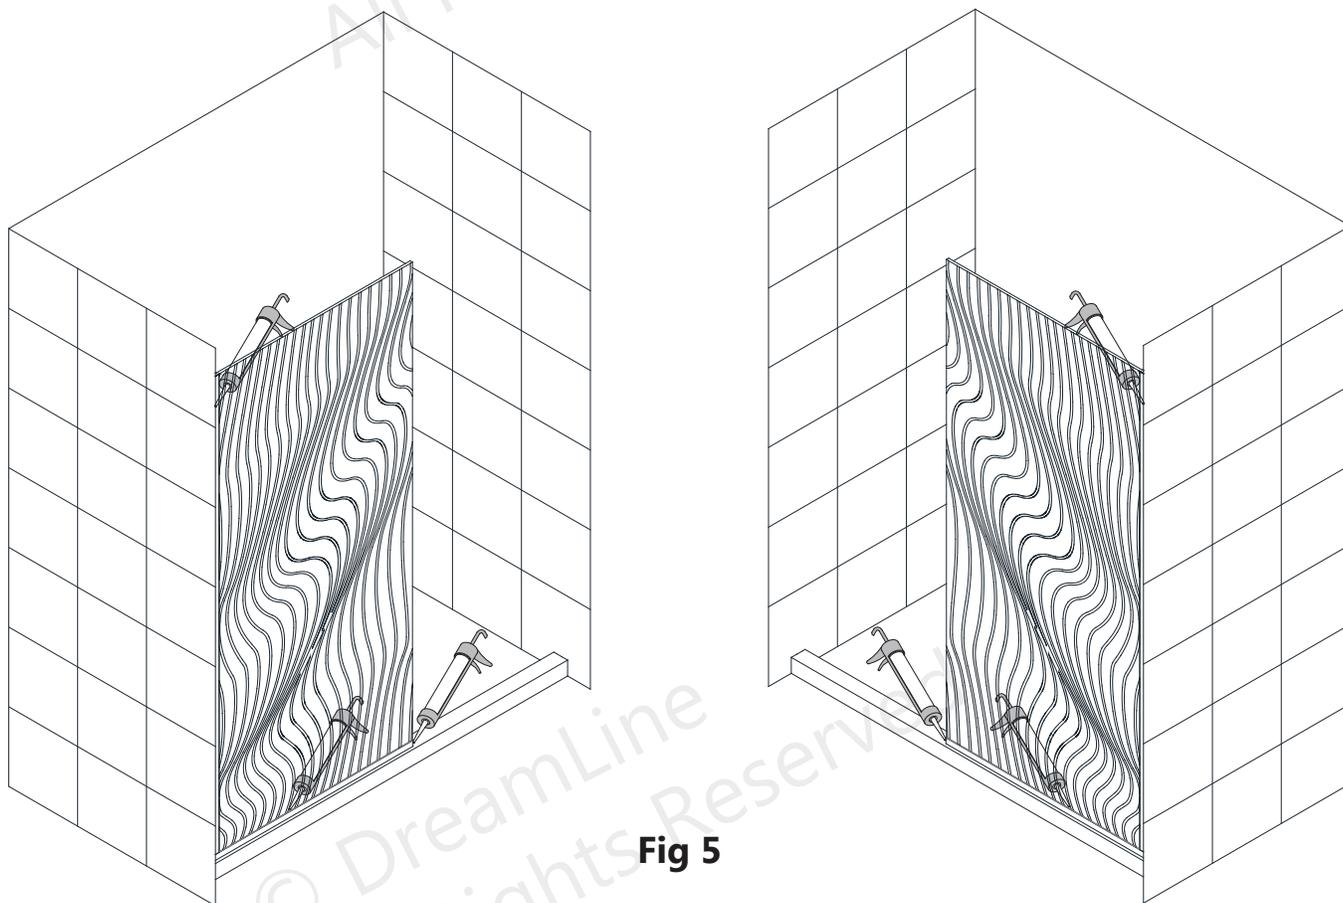

Fig 5
5. Apply a good quality mildew-resistant/waterproof silicone along the connection of both **U-Channels** to the wall and threshold on the inside of the shower. **(Fig 5)**